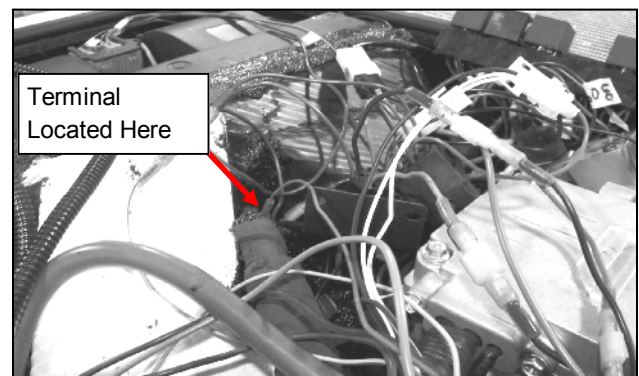

Fig. 5.2 (Disconnect Red/Pink Wire in A/C)
- 5.2** See Figure 5.2. Disconnect the red wire on the controller from the pink wire on the A/C unit.